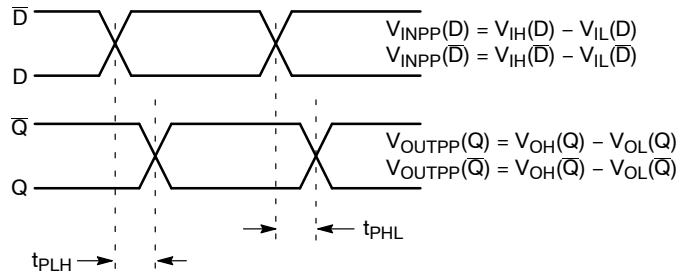

Figure 9. AC Reference Measurement
25. See Figure 9  $t_{skew} = |t_{PLH} - t_{PHL}|$  for a nominal 50% differential clock input waveform. Skew is measured between outputs under identical transitions and conditions @ 1 GHz.